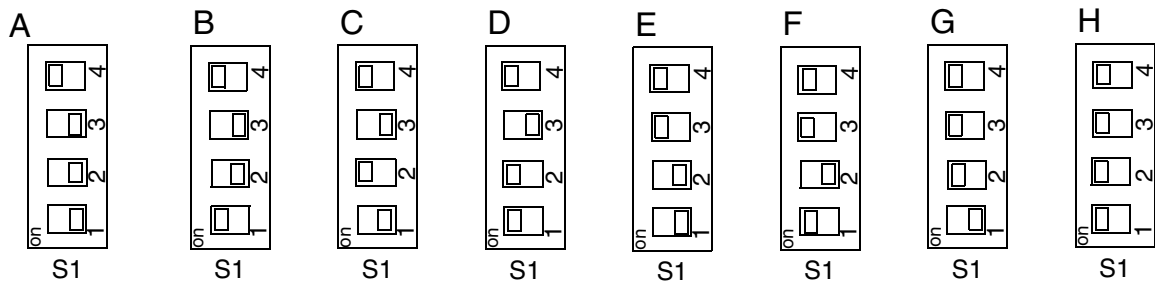

FIG. 11
As stated earlier, the default dipswitch setting is (AA) for a RS232 connection. If RS422 connection is used, this setting will require a change using the settings in FIG. 11.